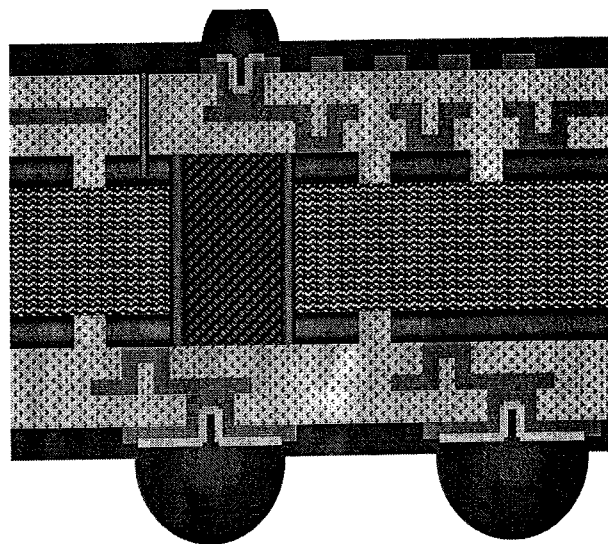

Figure 1: Organic flip chip substrate construction
- [c] Label the construction of organic flip chip substrate shown in Figure 1. Briefly explain (using Flow diagram) the manufacturing process of the substrate. (40 marks)